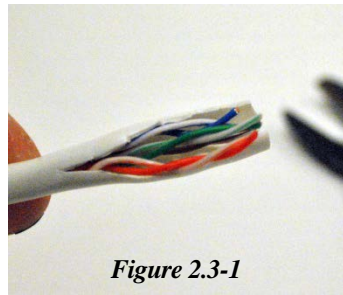

Figure 2.3-1
1. On the end of the tether cable that has no connector installed, use scissors to slit open the outer jacket and expose the first inch of wires as shown in Figure 2.3-1